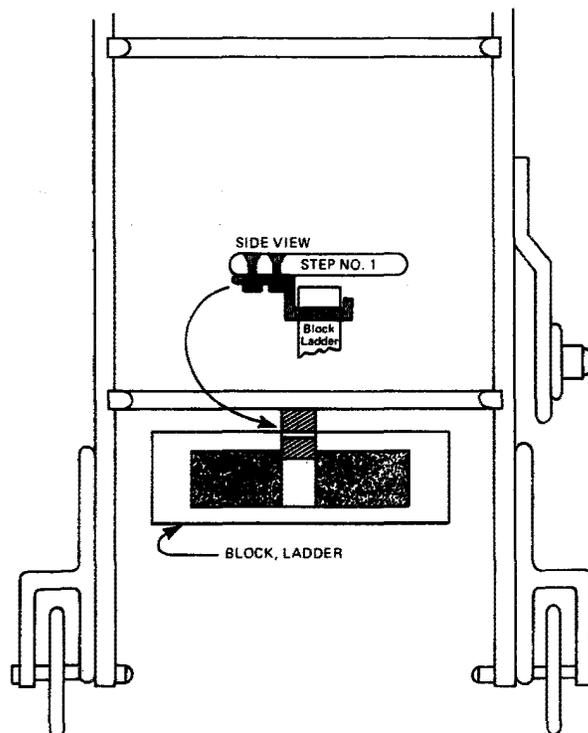

Fig. 1
3.01 The rear of the holder shall be flush with the rear underside of the bottom step of the ladder. Center the holder and attach it with $\frac{1}{4}$ " by 20" FH plated machine screws, nuts, and lockwashers (see Fig. 1).